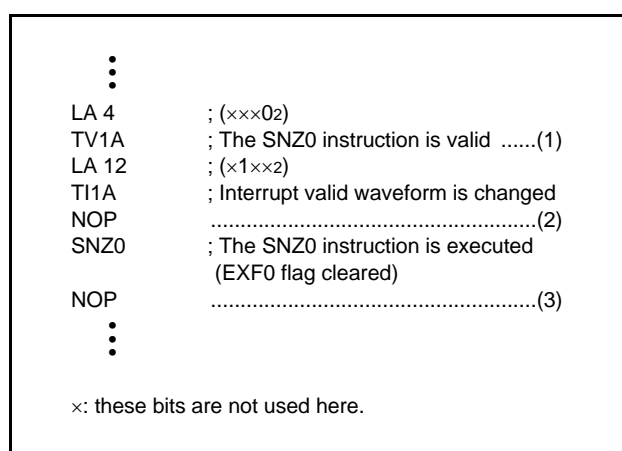

Fig 31. External 0 interrupt program example-3
- Depending on the input state of the D5/INT pin, the external 0 interrupt request flag (EXF0) may be set when the bit 2 of register I1 is changed. In order to avoid the occurrence of an unexpected interrupt, clear the bit 0 of register V1 to "0" (refer to (1) in Figure 31.) and then, change the bit 2 of register I1 is changed. In addition, execute the SNZ0 instruction to clear the EXF0 flag to "0" after executing at least one instruction (refer to (2) in Figure 31.). Also, set the NOP instruction for the case when a skip is performed with the SNZ0 instruction (refer to (3) in Figure 31.).